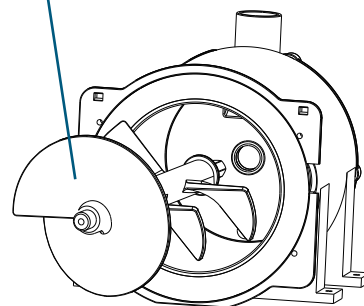

Figure 2
Check that the inner wall of the barrel is clean, take out the mixing rotor blade, wipe it with a wet cloth, and re-install the mixing rotor blade after cleaning, as shown in Figure 2.
2. Push ③ into ② by hand, as shown in Figure 2.